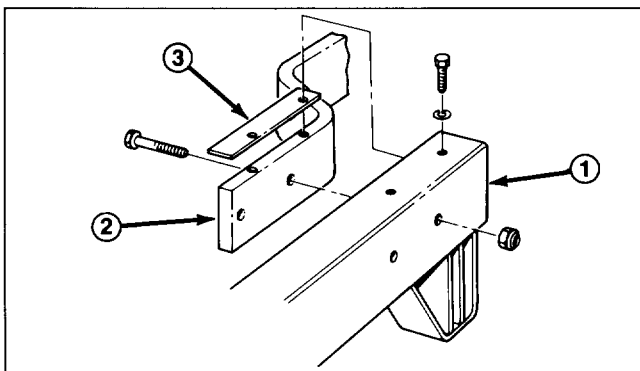

Figure 2
1. Align carrier frame mounting holes with mounting holes in traction frame, while positioning shim on traction frame and aligning mounting holes (Fig. 2).
2. Secure each side with (2) 3/8-16 x 1-3/4" lg. capscrews and locknuts. Locknuts must be positioned outside carrier frame.
3. Secure top of each carrier frame and shim to traction frame with (2) 3/8-16 x 3/8" lg. capscrews and lockwashers. Torque fasteners to 240-320 in. lb.